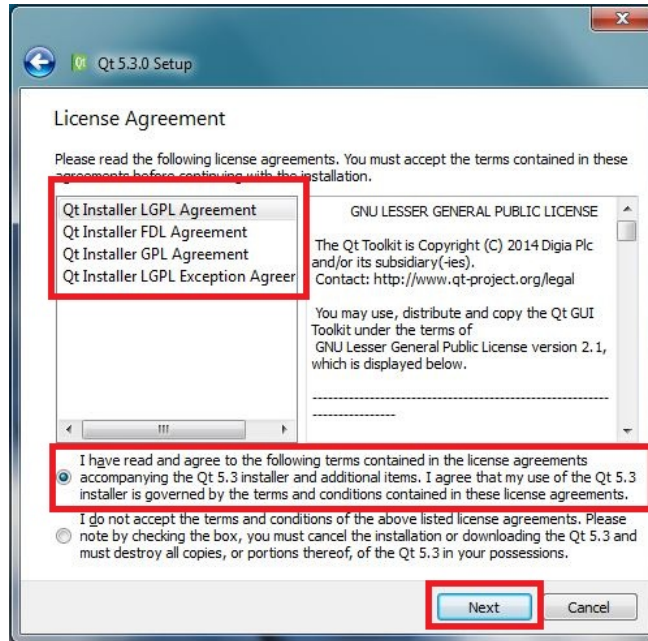

Figure 4-4. Qt Creator IDE End User License Agreement
- Review the license agreement and indicate you agree with the terms, shown in Figure 4-4. Then click the **Next** button.